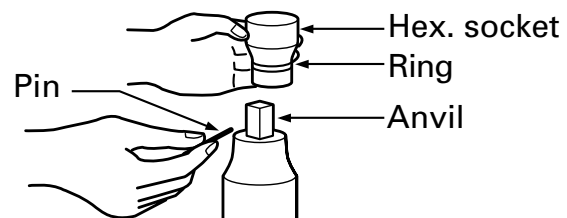

Fig. 2
(1) Pin, O-ring type (WH22) (Fig.2)